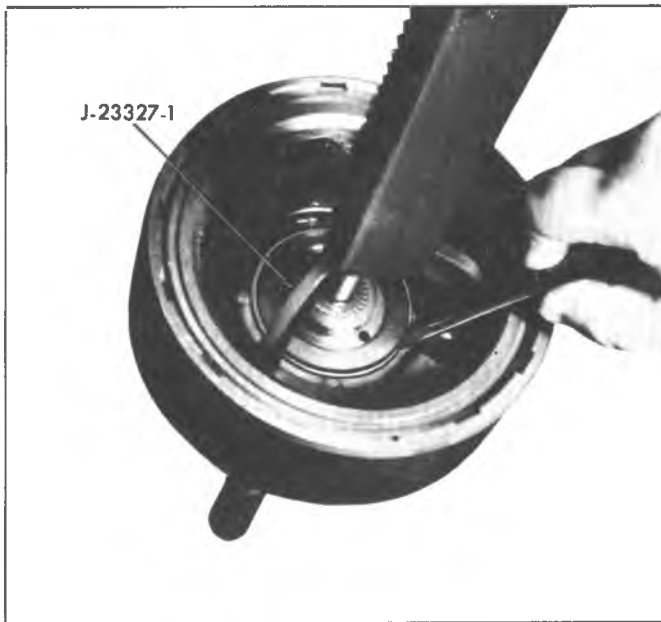
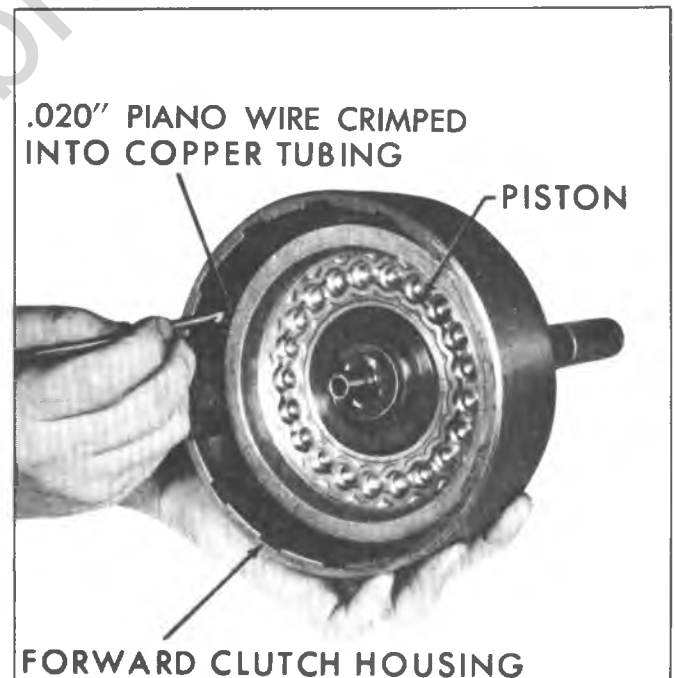

Fig. 80M--Compressing Forward Clutch Piston Return Seat
Fig. 83M--Installing Forward Clutch Piston
3. Using tool J-23327, compress piston return seat and remove retaining ring (fig. 80M).
4. Remove piston return seat and twenty-one (21) clutch return springs.
2. Install the forward clutch piston assembly with the aid of a feeler gauge or a piece of .020" piano wire crimped into copper tubing (fig. 83M).
3. Install twenty-one (21) clutch return coil springs.
4. Install spring retainer. Compress spring retainer and install retaining ring using tool J-23327-1 as shown on Figure 80M.